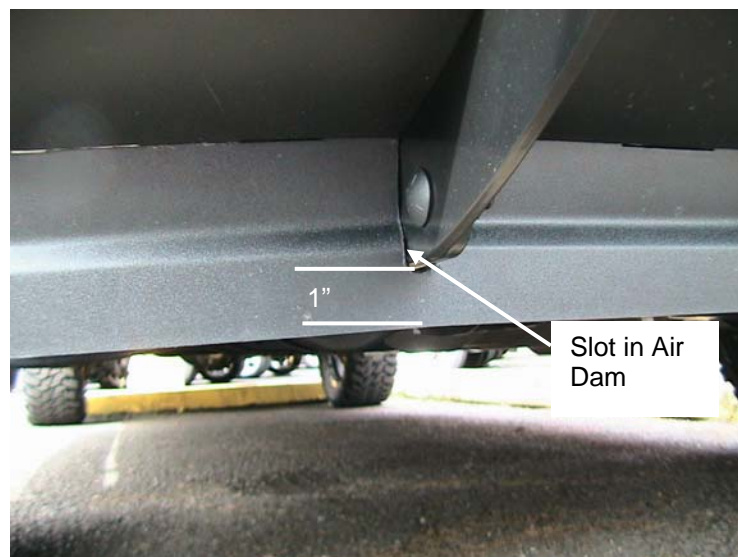

Figure 6. Side Member Through Slot.
21. Install the tow hooks as shown in figure 6, using two 1/2" x 2 1/2" hex bolts, flat washers, lock washers, and hex nuts for each tow hook.